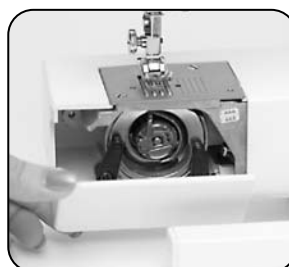

Fig. 5
3. Remove the free arm cover and open the front bobbin cover [Fig. 5].